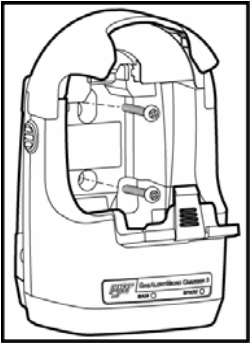

Figure 1. Inserting Screws For Mounting
The charger can be mounted to a secure surface. To mount the charger, refer to Figure 1 and complete the following steps:
2. Lower the battery tray to access the screw holes. Refer to Figure 1.